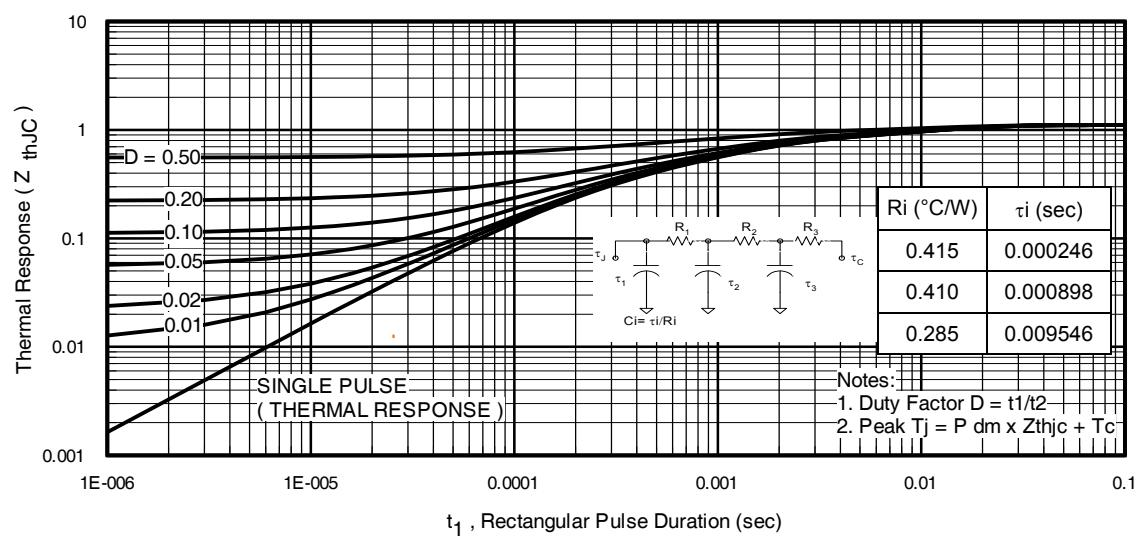
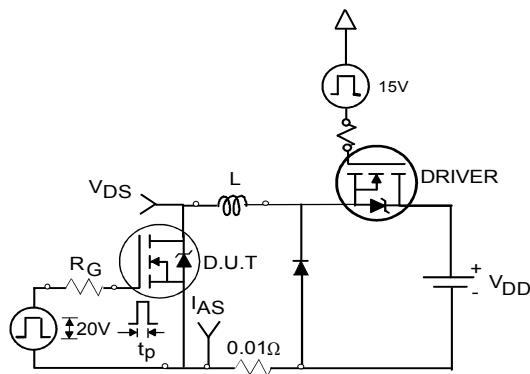

Fig 11. Maximum Effective Transient Thermal Impedance, Junction-to-Case
Fig 12a. Unclamped Inductive Test Circuit
- ① Repetitive rating; pulse width limited by max. junction temperature. (See fig. 11)
- ② Limited by $T_{J\text{max}}$, starting $T_J = 25^\circ\text{C}$, $L = 0.077\text{mH}$, $R_G = 25\Omega$, $I_{AS} = 51\text{A}$, $V_{GS} = 10\text{V}$. Part not recommended for use above this value.
- ③ Pulse width $\leq 1.0\text{ms}$; duty cycle $\leq 2\%$.
- ④ $C_{oss \text{ eff.}}$ is a fixed capacitance that gives the same charging time as C_{oss} while V_{DS} is rising from 0 to 80% V_{DSS} .
- ⑤ Limited by $T_{J\text{max}}$, see Fig.12a, 12b, 15, 16 for typical repetitive avalanche performance.
- ⑥ This value determined from sample failure population, starting $T_J = 25^\circ\text{C}$, $L = 0.077\text{mH}$, $R_G = 25\Omega$, $I_{AS} = 51\text{A}$, $V_{GS} = 10\text{V}$.
- ⑦ When mounted on 1" square PCB (FR-4 or G-10 Material). For recommended footprint and soldering techniques refer to application note #AN-994 : <http://www.irf.com/technical-info/appnotes/an-994.pdf>
- ⑧ R_θ is measured at T_J approximately 90°C .
3. Equation below based on circuit and waveforms shown in Figures 12a, 12b.